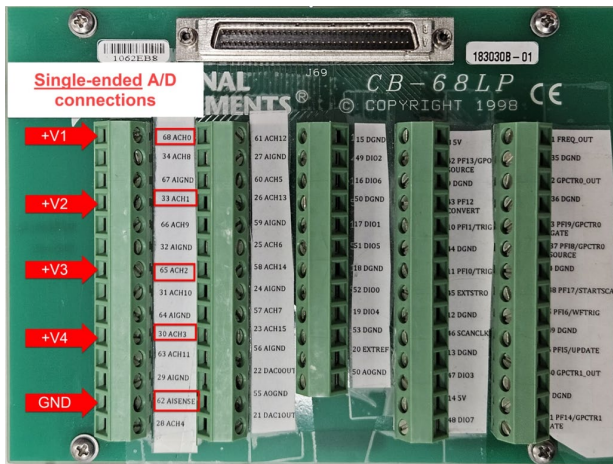

Figure 9 – Single-ended A/D connection
- If you select **single-ended**, the signals should be connected as shown in Figure 9.